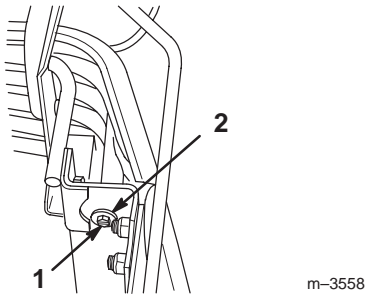

Figure 11
10. After servicing the battery, replace the front grill of the tractor and secure the grill with two #8 x .50" long grill screws and .75" O.D. grill washers in the upper two grill mounting holes (Fig. 11).